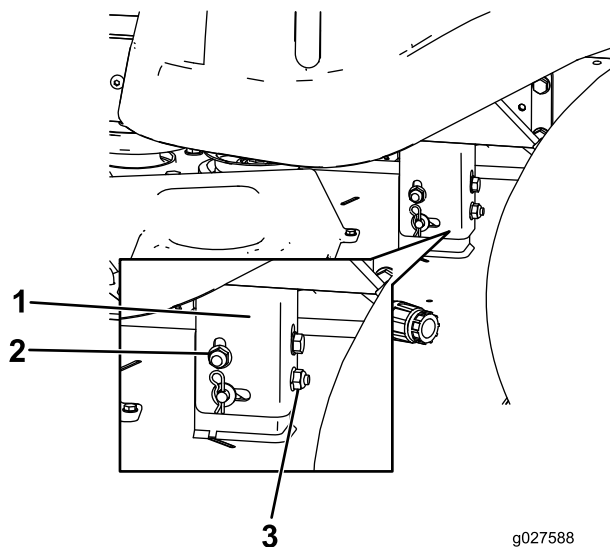

Figure 49
8. Raise or lower the left side of the mower deck by rotating the rear nut. (Figure 49).